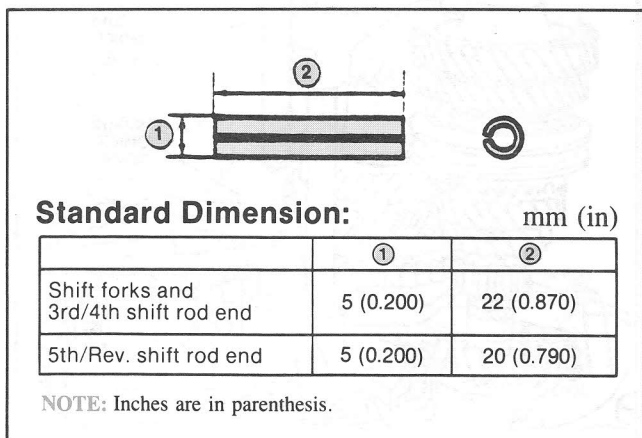

Figure 125 Roll Pin Size Chart
**NOTE:** There are three roll pin sizes. The following chart and illustration details the correct installation location for each roll pin. (Figure 125).